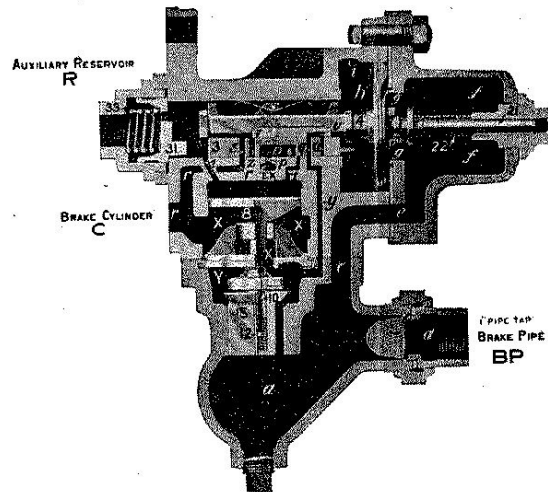

Fig. 18: Emergency Position.
A. When any sudden reduction of brake pipe pressure is made below that in the auxiliary reservoir, it will be felt in chamber "h" in front of piston 4 and cause this piston to move to the extreme right, as shown in Fig. 18. This movement of the parts will open port "t" in the slide valve seat and allow air from the auxiliary reservoir to flow to the top of the emergency piston 8, forcing the latter downward and opening emergency valve 10. The unseating of the emergency valve allows the air in chamber "Y" to escape to the brake cylinder, thus permitting brake pipe pressure in chamber "a" to lift the check valve 15 and flow to the brake cylinder through chambers "Y" and "X", until brake cylinder and brake pipe pressure nearly equalize, when the check valve is forced to its seat by the check valve spring 12, preventing the air in the cylinder from escaping back into the brake pipe again. The emergency valve and piston will now return to their normal position. At the same time port "s" in the slide valve registers with port "r" in the slide valve seat, and allows air from the auxiliary reservoir to flow to the brake cylinder. This sudden discharge of brake pipe air into the brake cylinder has the effect on the next triple valve, which in turn vents brake pipe air that affects the following triple valve and so on throughout the train.